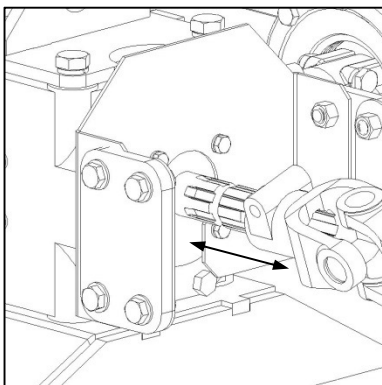

Fig. 7
- ✔ Couple the right-hand intermediate shaft to the centre gearbox on the first occasion that the splines are aligned and the right-hand cutting gear blades are within $\pm 15^\circ$ of the required position (Fig. 7).
- ✔ Koppel die regterkantste tussenas aan die sentrale ratkas die eerste keer wanneer die ribbe belyn is en die regterkantste snymeganislemme binne $\pm 15^\circ$ van die vereiste posisie is (Fig. 7).